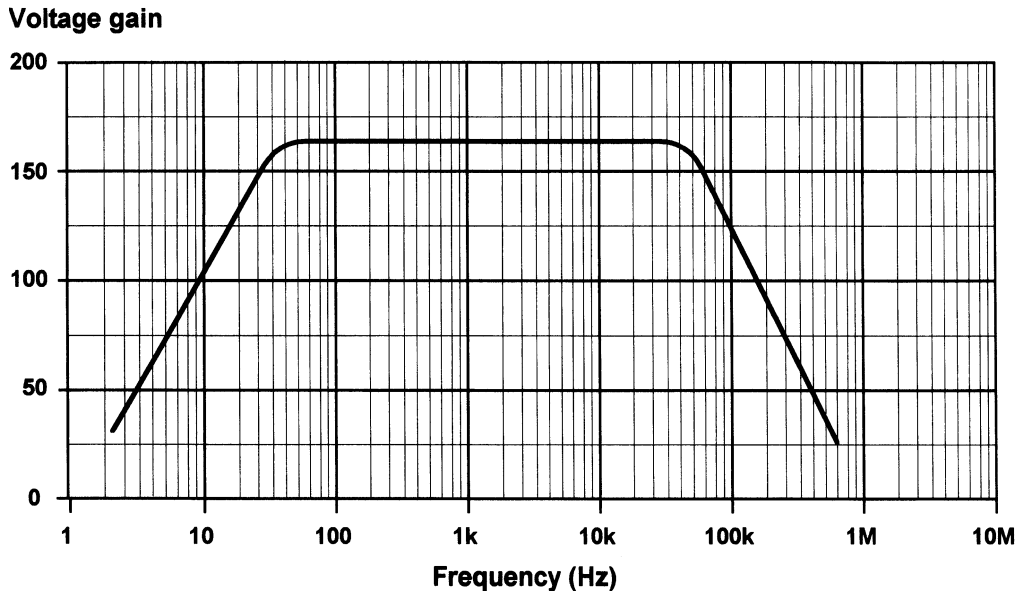

Figure A2.14
34. Figure A2.14 shows the frequency response of an amplifier. Determine the mid-band voltage gain and the upper and lower cut-off frequencies. [Page 119]